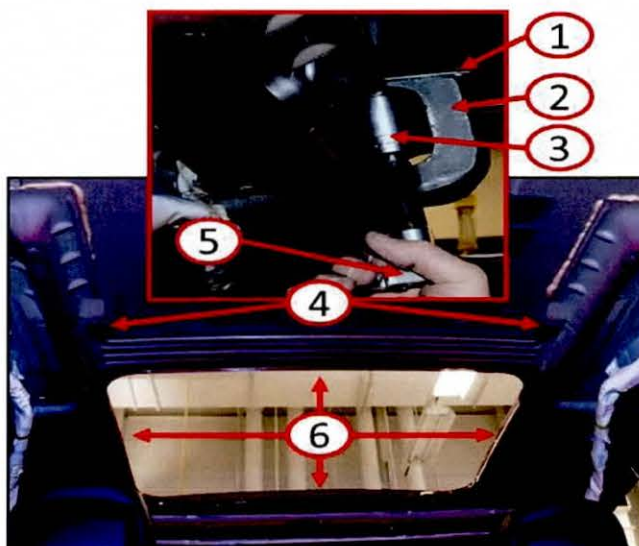

Fig. 3 Modify Using Special Tool
5. Using a backer plate (1) or heavy (3/8"/10mm minimum thickness) cardboard to protect and disburse any pressure applied against the outer roof sheet metal, insert the C-4150A ball joint press/special tool (2) into the low hanging sunroof reinforcement feature (4) (Fig. 3).
6. Insert a 30mm socket or equivalent (3) between the sunroof reinforcement and spindle of the C-4150A ball joint press/special tool to take up space between the frame and spindle of the press. Carefully tighten the spindle of the press to compress the center of the sunroof reinforcement upward (Fig. 3).